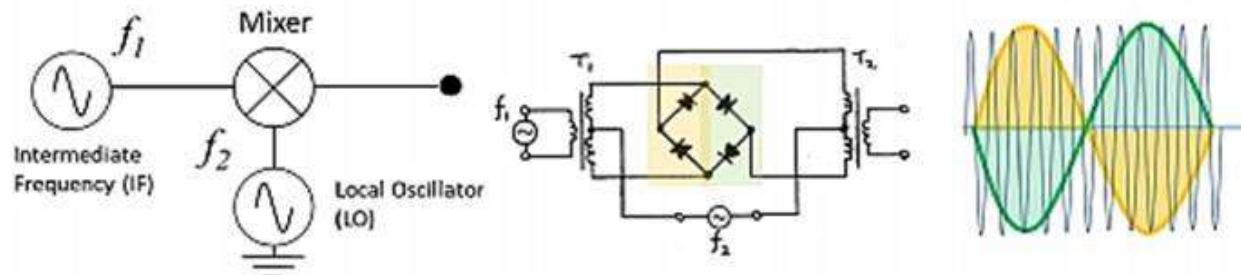

Figure 1. A balanced mixer
A mixer is usually a three port passive device used for frequency translation. In the Frequency Domain it adds and subtracts two frequencies together. In the time domain it is the equivalent of multiplying two sinusoids of specific frequencies together. Generally, one frequency is defined as the Local Oscillator (LO) and the other frequency is the Intermediate Frequency (IF). Referring to figure 1, when the LO is applied the positive swing turns on green half of the bridge and the negative swing turns on the yellow half, thus only allowing the input frequency current to flow during these on and off times. If the LO frequency is much greater than the IF, which is usually the case, the high frequency switching of the diode circuit produces a time domain envelop of the lower frequency, or effectively adding the LO and the IF.